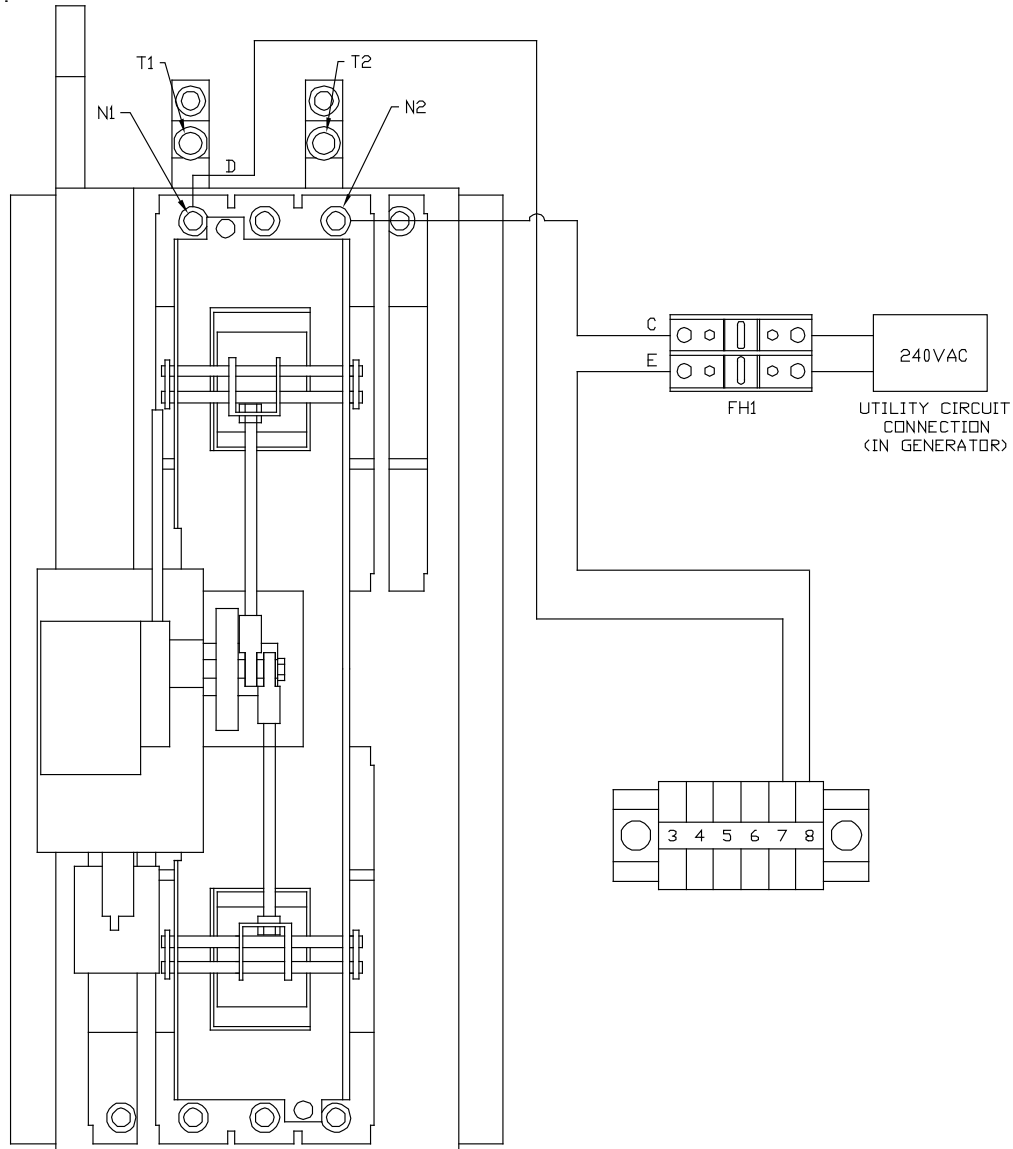

Figure 6 - Eaton Wiring Diagram
For the following connection procedure, refer to Eaton Wiring Diagram (Figure 6, page 4); to the generator installation manual; and to the manual packed with the Eaton Transfer Switch.
5. Connect piggyback lug end of Wire Assembly C (207022CGS) adapter installed on contactor terminal N2 (Figure 6, page 4) and other end to fuse holder (FH1).